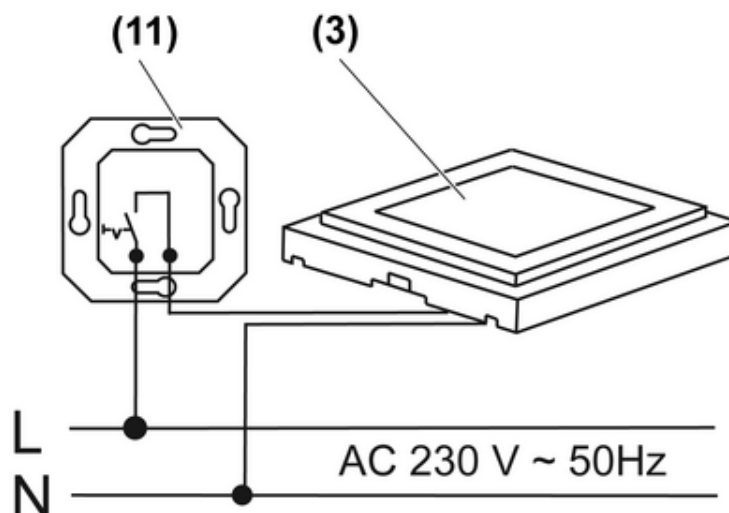

Figure 2
- Connect orientation light (3) to 230 V AC in accordance with connection example (Figure 2) using the enclosed terminals. The phase conductor is connected to the brown cable and the neutral conductor is connected to the blue cable. If desired, an installation switch (11) or a relay switch can be used for switching off.